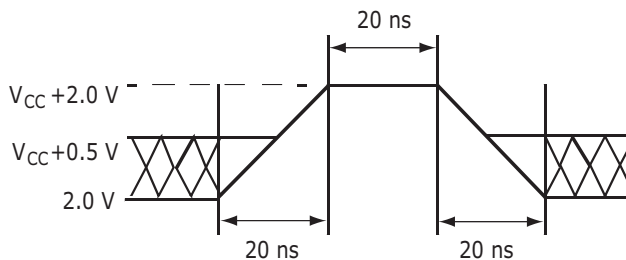

Figure 13.2 Maximum Positive Overshoot Waveform
1. Minimum DC voltage on input or I/O pins is –0.5 V. During voltage transitions, input at I/O pins may overshoot V_{SS} to –2.0 V for periods of up to 20 ns. See Figure 13.2. Maximum DC voltage on output and I/O pins is 3.6 V. During voltage transitions output pins may overshoot to $V_{CC} + 2.0$ V for periods up to 20 ns. See Figure 13.2.